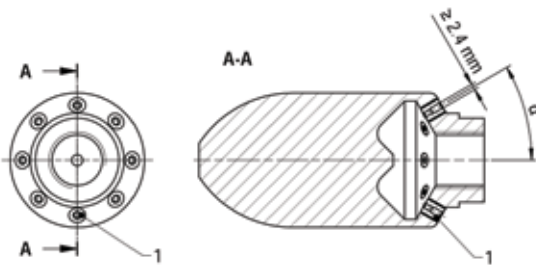

Fig. 60: Nozzle for high pressure cleaning
When pressure cleaning pipelines with water, take due care to prevent the inner surface of the pipes from being damaged. Always use methods that do not damage the pipe wall mechanically. Take special care to choose the appropriate nozzle (Figure 60). Select the nozzles such, that there can be no sudden impact of the nozzle touching the pipe wall. HOBAS can help in this regard.
- The size of the inserts in the nozzle should be minimum 2.4 mm (Figure 60).